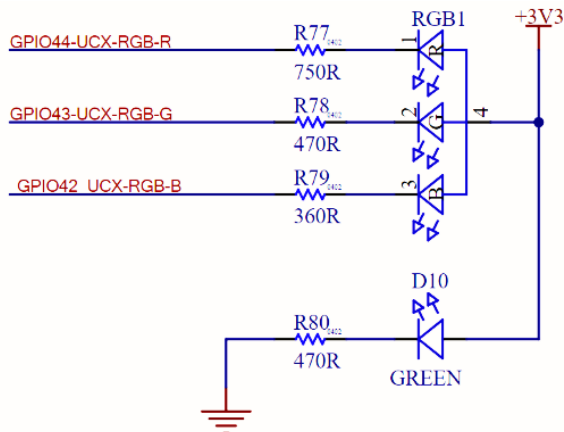

Figure 14: Schematic – RGB and power LED
- System status (**RGB1**): Powered by **+3V3** and turned on by pulling the associated GPIO low. Associated GPIOs can be used as ADCs after disconnecting each LED by removing resistors **R77-R79**, as shown in Table 4 and Figure 14.
Figure 14 shows the schematic for the RGB status and power LEDs, and the configuration resistors (R77-R79).